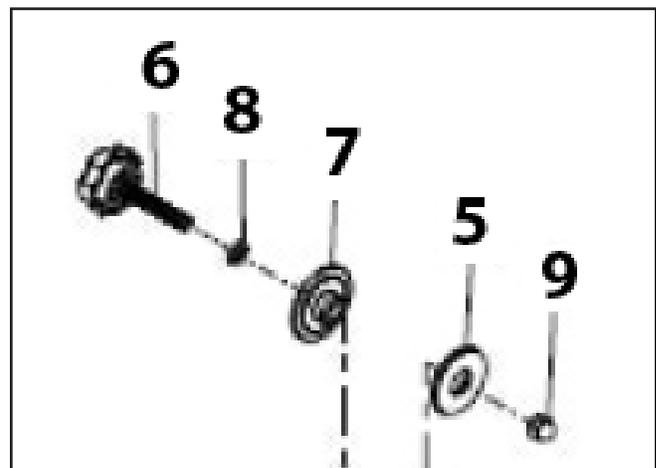

Figure 11
12. Place the carriage screw outside of the link through lock washer, spacer, and bottom hinge pad hole (Figure 11). Add flat washer, tighten the lock nut.